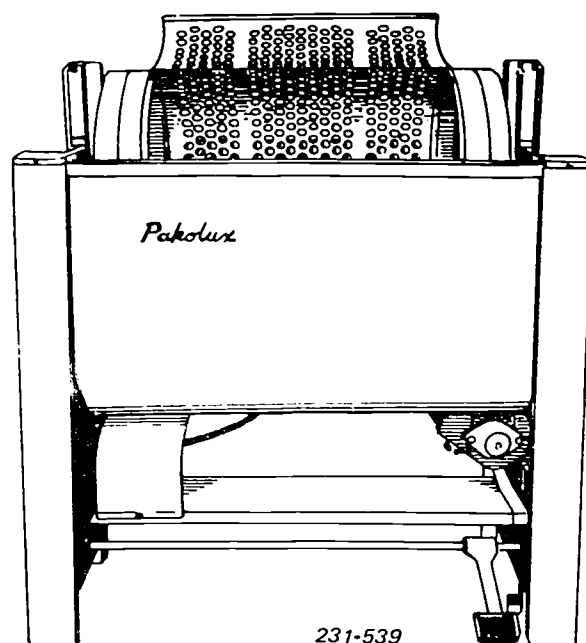

Figure 4-1. Pakolux print washer.
**Pakolux.** A typical mechanical print washer is the Pakolux shown in figure 4-1. The machine washes large numbers of small photographic prints quickly and efficiently. It washes approximately 100 double-weight 8 x 10s in 45 minutes.